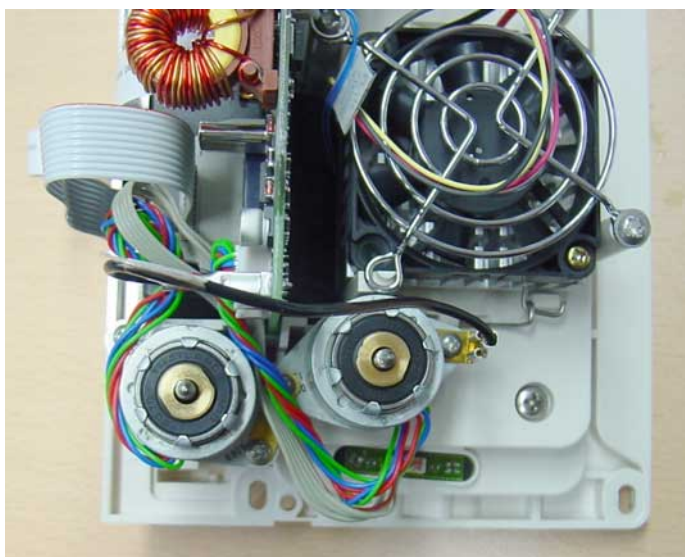

Fig. 3-17 Measuring chamber actuators (rear view)
If necessary, move the valve head by turning the brass disk at the backside of the valve (see Fig. 3-17).
4. Open the mounting screws at the rear of the measuring chamber actuators (see Fig. 3-17) and take out the actuator.
5. Pull off the cable connection from the analog board (see Fig. 3-17).